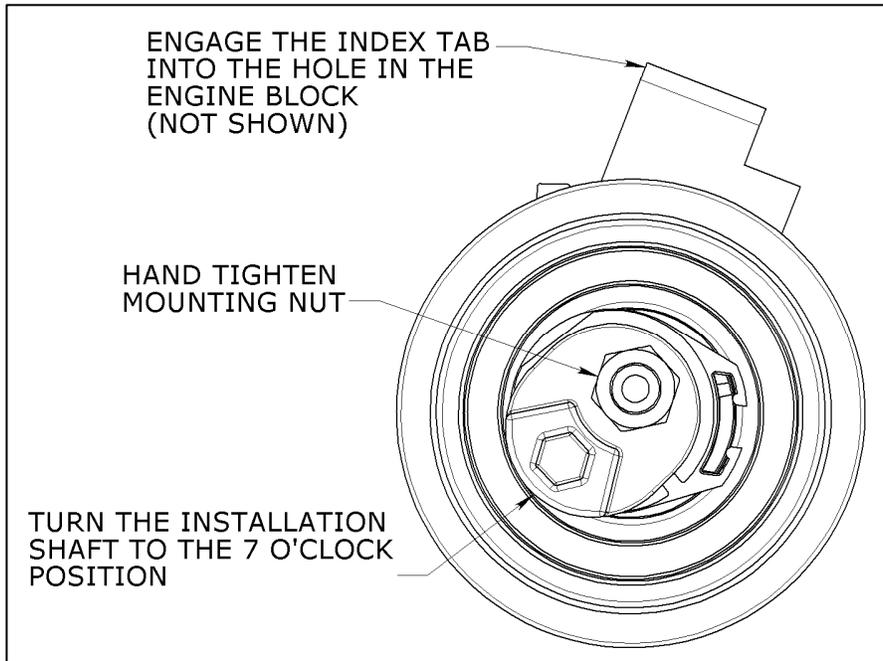
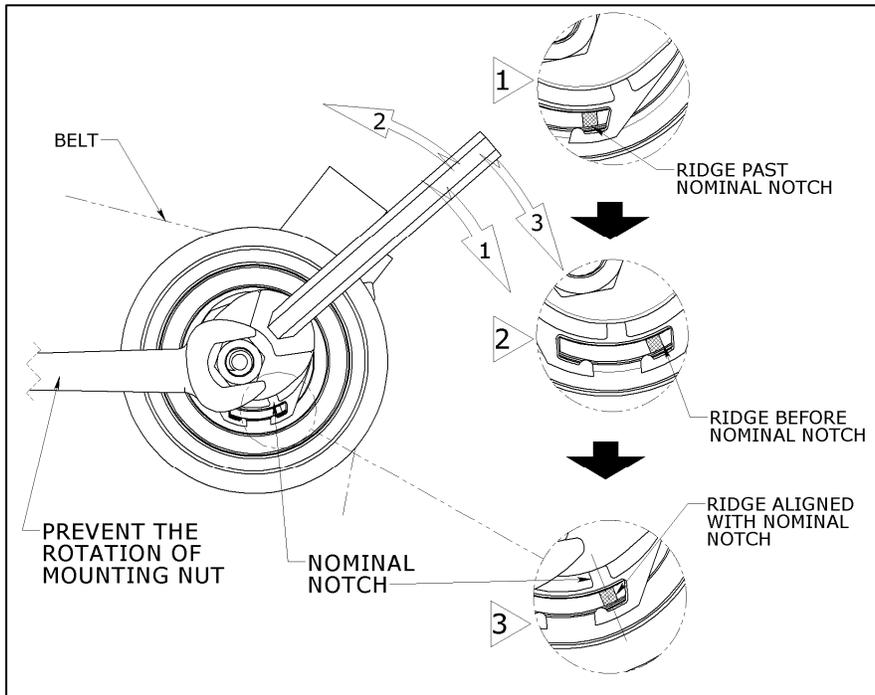

Figure 4: Initial setup of the Timing Belt Tensioner
Figure 5: Tensioner Cycled before setting to Nominal Position
8. Rotate the installation shaft on the tensioner by using a 8mm Allen Key to the approximate "7 O'clock position" (Fig. 4). This will maximize the belt clearance for ease of installation. Hand tighten (lightly) the mounting nut on the stud.
11. Continue rotating the installation shaft in the clockwise direction **1** (Fig. 5), so that the ridge passes the nominal notch and stops at load stop as shown in Detail **1** (Fig. 5). Then rotate the installation shaft in the counter-clockwise direction **2** (Fig. 5) to have the ridge pass the nominal notch and stop as shown in Detail **2** (Fig. 5). After cycling the tensioner as mentioned, rotate the installation shaft in the clockwise direction **3** only (Fig. 5) so the ridge aligns within the edges of the nominal notch as shown in Detail **3** (Fig. 5).
12. Once the nominal position is achieved, prevent the rotation of the installation shaft and torque the mounting nut to **21~26 Nm** (Fig. 5).
If the 2 edges of the arm alignment ridge are within the alignment notch on the front plate (detail-3 in Fig. 5), the tensioner is set at its nominal position and the installation is complete.
17. Prevent the mounting nut from rotating and cycle the installation shaft so that the alignment ridge cycles about the nominal position (Fig. 4) and then rotate the installation shaft CLOCKWISE only until the arm alignment ridge moves clockwise to align within the notch on the front plate (Fig. 5).